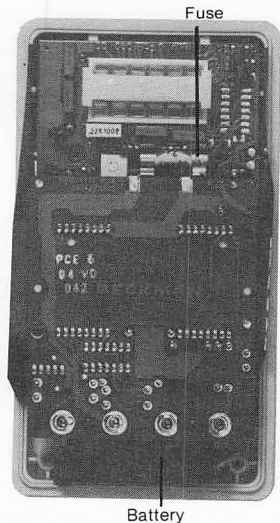

Figure 15. Multimeter with Back Cover Removed
2. The battery is located in the front part of the case as shown in Figure 15. Disconnect battery from instrument and replace with a standard 9-volt transistor battery.
2. The fuse is located in the upper half of the instrument, see Figure 15. Remove old fuse and replace with spare.